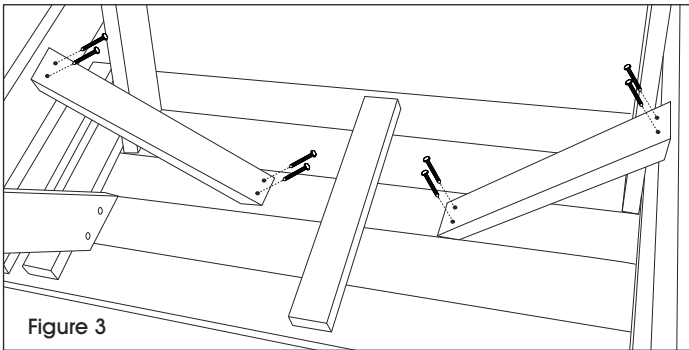

Figure 3
7. Make sure the legs are perpendicular to the table top to ensure table top is level. Pre-drill holes using 1/8" drill bit and attach diagonal braces using four 2 1/2" wood screws to the cross-member and preassembled table top. (See Figure 3)